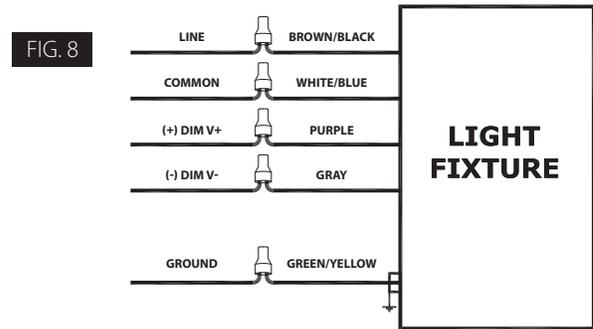

FIG. 8
CAUTION: Do not open or remove Respirator Plug as shown in **Fig. 8**. Be sure fixture temperature is cool enough to touch. Do not clean or maintain while fixture is energized.
4. Feed supply wires from the **Pole** to connect to the **Arm**. Make appropriate wire connections per NEC in an approved enclosure (**Fig. 8**).
5. Feed supply wires from the **Pole** to connect to the **Arm**. Make appropriate wire connections per NEC in an approved enclosure (**Fig. 8**).
Universal voltage driver permits operation at 120V thru 277V, 50 or 60 Hz. For 0-10 Dimming, follow the wiring directions as in Fig. 8.